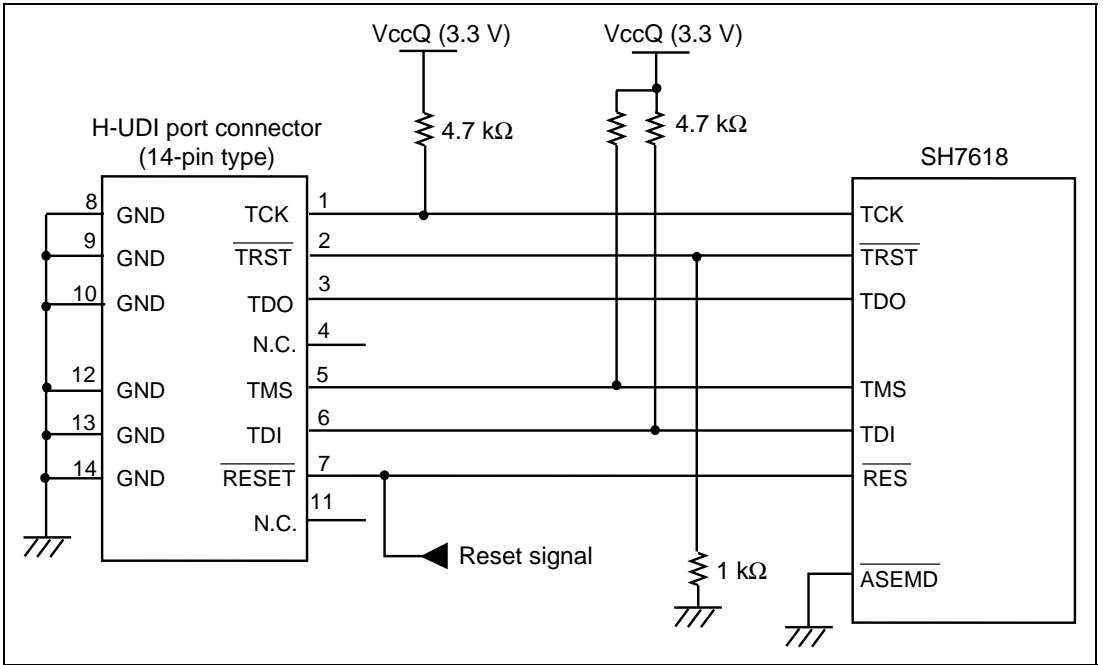

Figure 1.2 Recommended Circuit for Connection between the H-UDI Port Connector and MPU
Figure 1.2 shows a recommended circuit between the H-UDI port connector and the MPU.
- (1) When the emulator is used: /ASEMD = low (ASE mode)
- (2) When the emulator is not used: /ASEMD = high (normal mode)
6. The resistance values shown in figure 1.2 are recommended.